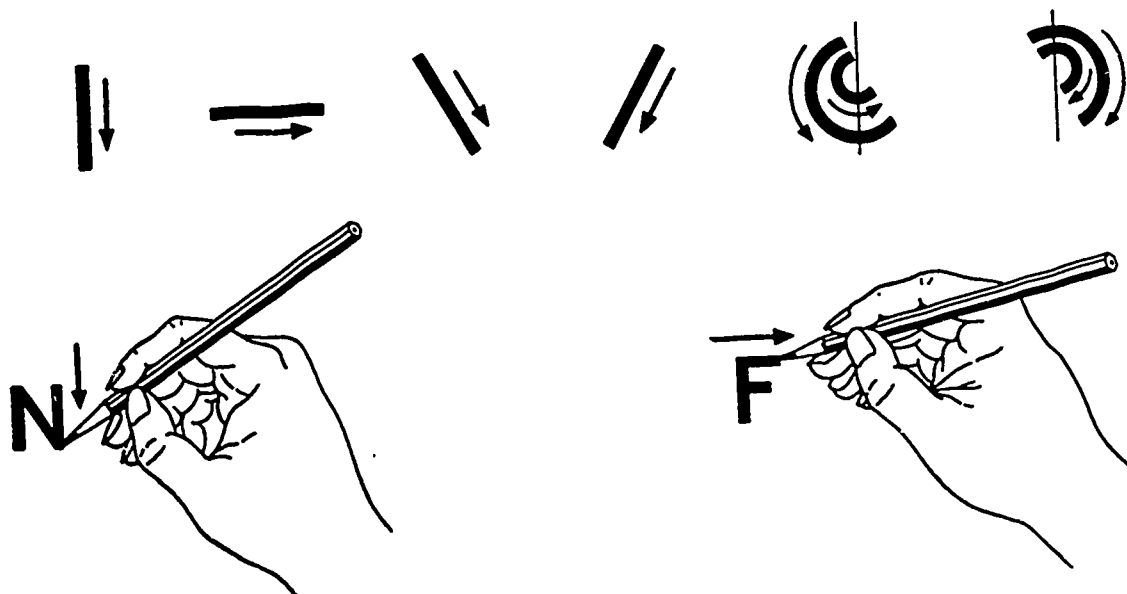

Figure 3-2. Basic lettering strokes.
**Elements of Letters.** The letters of the alphabet are composed of two simple elements, with a few variations due to the shape of certain letters. The first of these elements is called the stem of the letter and is made with a single downward stroke. The second element is called the round or oval and is made with one or two strokes, depending upon the size of the letter being made. The basic strokes used to produce these elements are shown in figure 3-2.